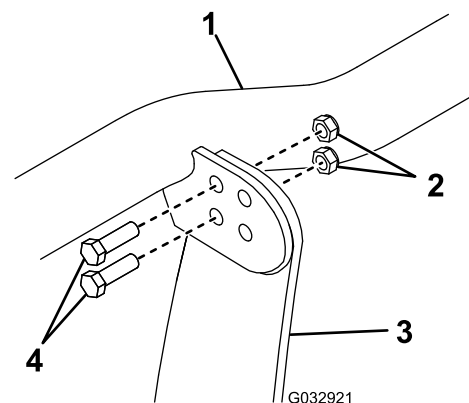

Figure 9
1. Secure the light bar to the top of the coupler tower through the rear holes using 4 bolts (3/8 x 1-1/4 inch) and self-locking nuts (3/8 inch) (Figure 9). Torque the bolts to 31 N·m (23 ft-lb).